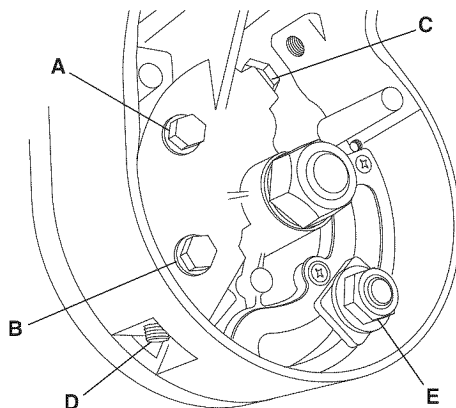

**Figure 5. Blade Square to Table**
Lower the blade and engage the lock pin. Use a combination square to check blade squareness to the table. Place the square on the table and press it against the blade. If the blade does not contact the full length of the square, (figure 5), follow the alignment procedure.
5. Place combination square on table and against fence. (See figure 5)
Use a head of combination square to check blade at the 45° stop. Place the combination square head on the table and press its 45° surface against the blade. If the blade does not contact the full length of the square, (figure 5), follow the alignment procedure.